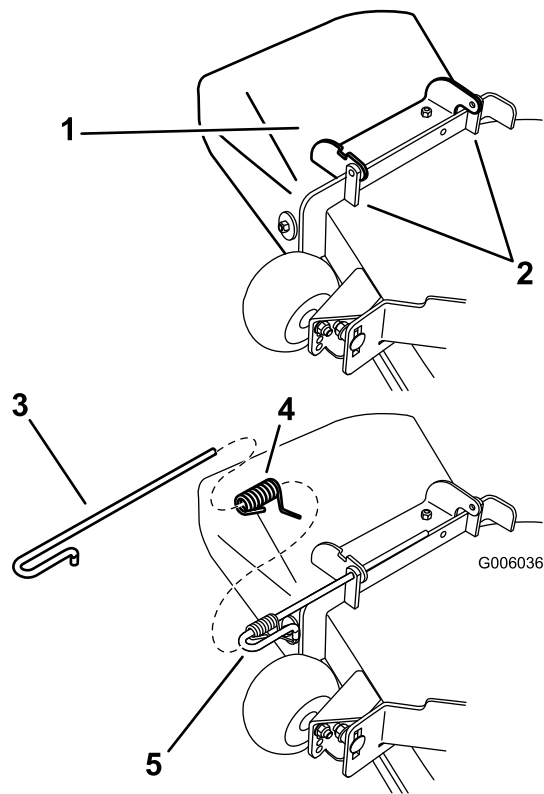

Figure 76
1. Disengage the spring from the notch in the deflector bracket and slide the rod out of the welded deck brackets, spring, and discharge deflector (Figure 76). Remove the damaged or worn discharge deflector.
2. Position the new discharge deflector assembly with the bracket ends between the welded brackets on the deck as shown in Figure 76.